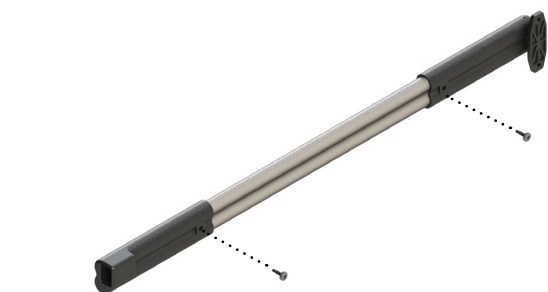

Fig.11
7. Slide the sleeves onto each end of the push bar to the new marks and, using the supplied screws, fasten the sleeves to the push bar. (Fig.11). The push bar is now complete.